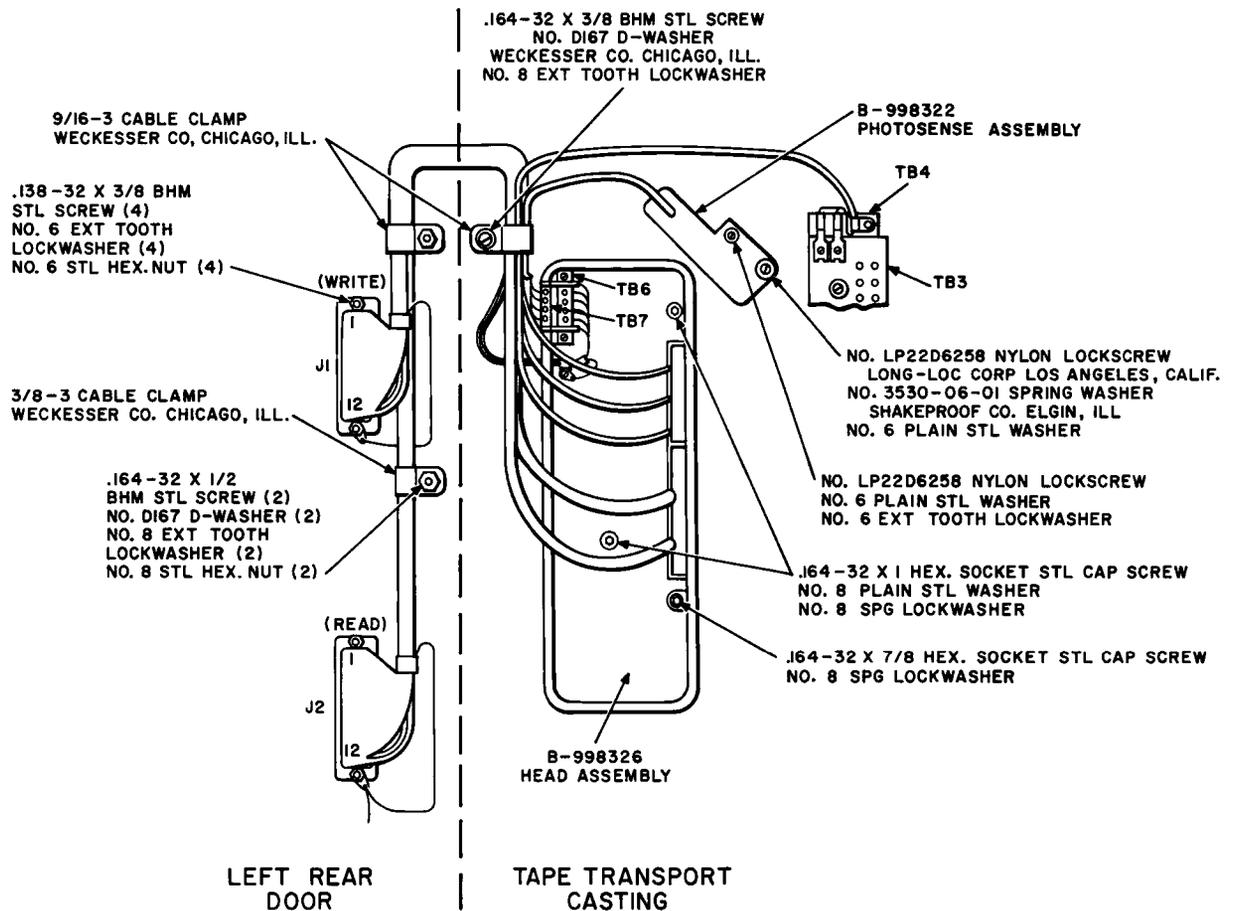

Fig. 18—Recording Head Assembly and Mounting Details
- (5) Refer to Fig. 18 and, using a KS-6854 screwdriver, loosen the two screws securing terminal lugs of fanning strip (TB4); then disengage fanning strip from terminal board (TB3).
- (6) Use a KS-6854 screwdriver to loosen six screws on terminal board (TB6), and disconnect fanning strip (TB7) from TB6.
- (7) Use a 5-inch E screwdriver to remove cable clamp (Fig. 18), screw, D-washer, and lockwasher which secure cable leads to the transport casting.
- (8) To remove both cable clamps from left rear door, use a 5-inch E screwdriver to remove screw, D-washer, lockwasher, and hex nut which mount each clamp.
- (9) To dismount cable connectors J1 and J2, use a 4-inch E screwdriver and 418A wrench to remove two screws, lockwashers, and hex nuts which secure each cable connector. The grounding lug at lower mounting screw of each connector is dismantled during this procedure.
- (10) Using the 1/8-inch Allen wrench, remove three hex socket cap screws, plain washers, and lockwashers which secure head assembly on transport casting; remove head assembly and its associated cabling from tape transport.
- (12) Install 9/16-inch cable clamp on transport casting (Fig. 18); route all head cable leads and photosense cable through this clamp. Mount this clamp loosely with screw, D-washer, and lockwasher.
- (13) Route all head cable leads, except the erase head cable with fanning strip (TB4), through two cable clamps on inside of left rear door. The upper clamp (9/16 inch) and lower clamp (3/8 inch) shall be mounted loosely with screws, D-washers, lockwashers, and hex nuts as shown in Fig. 18. Spiral wrapping on the head cable leads should be between the clamp on the transport casting and the upper clamp on rear door.
- (14) Place the J1 and J2 connectors into position on left rear door with terminal 1 of each connector positioned at top. Grounding lugs from the cable terminations shall be mounted to the lower mounting screw of their respective connectors. Use a 4-inch screwdriver and 418A wrench to secure both connectors with mounting hardware removed in (9).
- (15) Connect fanning strip (TB7) of the photosense assembly to the terminal board (TB6) at the upper left of head assembly. The two white leads on TB7 should be connected at terminals 5 and 6 of TB6. Use the KS-6854 screwdriver to tighten the six screws on TB6 after the lugs of TB7 have been engaged.
- (16) Connect the erase head fanning strip (TB4) to terminal board (TB3) as shown in Fig. 18, and tighten the two screws on TB3 with the KS-6854 screwdriver.
- (1) Disconnect cable clamp as described in 3.21(7).
- (2) Disconnect photosense cable fanning strip (TB7) from terminal board (TB6) as described in 3.21(6).
- (3) Use a 4-inch E screwdriver to remove the two nylon lock screws (Fig. 18) and washers holding the photosense assembly, and remove the assembly from transport casting.
- (4) Place new photosense assembly into the opening vacated by the old assembly. Using the 4-inch E screwdriver, loosely mount the assembly at the upper mounting hole with nylon lock screw, plain washer, and external tooth lockwasher. At the lower mounting hole in the photosense assembly, loosely mount the assembly with nylon lock screw, plain washer and spring washer.
- (5) Place a reel of tape on the supply turntable of the transport, and thread the tape in normal manner. Tension the tape by manually rotating the take-up reel in the take-up (clockwise) direction for a turn or two. Stop turning, thus